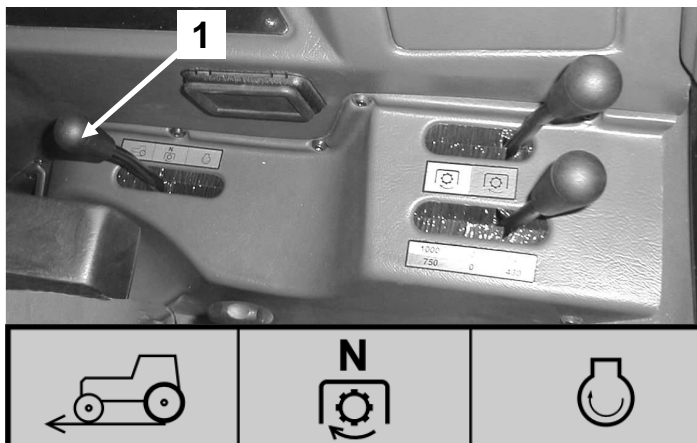

Figure 4-31 PTO control lever (switchover to revolutions: dependent – independent) and pictogram
- setting of lever 1 (Figure 4-31) forwards according to direction of tractor travel;
- moving lever 1 (**Figure 4-31**) backwards;
ATTENTION! Central setting of lever 1 (**Figure 4-31**) is the neutral position. Setting switch in this position disconnects PTO drive.